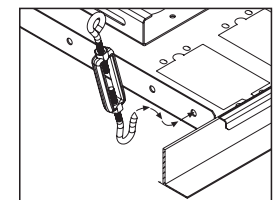

Fig 3
- Insert Turnbuckle hooks into four corners of Ceiling Tray (Fig 3).